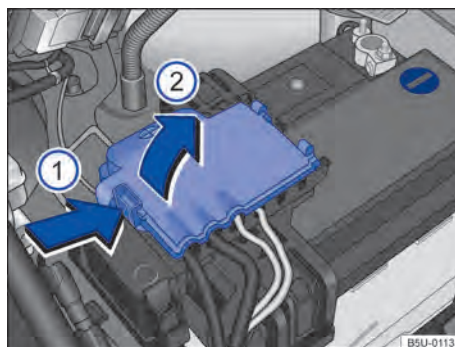

Fig. 183 Engine compartment: access to the positive battery terminal.
- Open the positive terminal cover. To open, press the lock in the direction of the arrow → Fig. 183 ① and move the cover to the side, in the direction of the arrow ②.